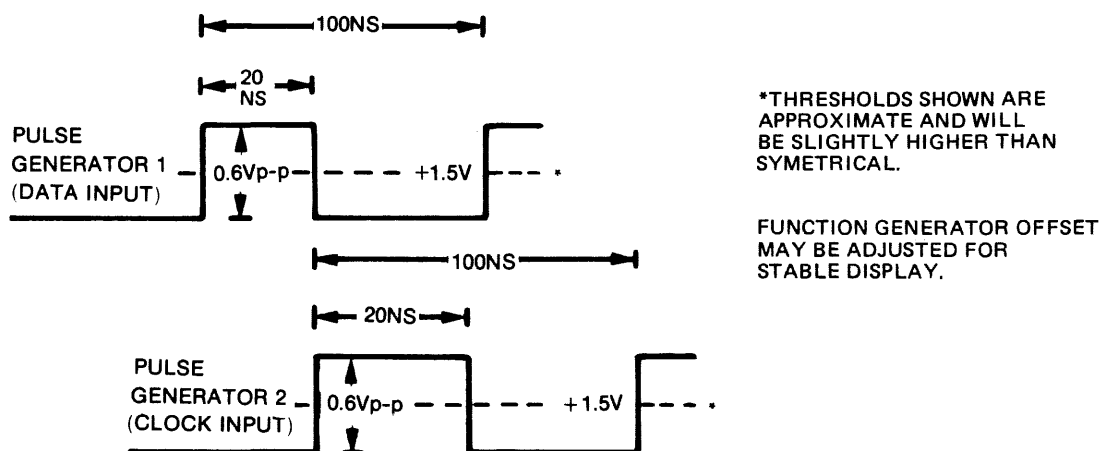

Figure 4-6. Minimum Input Voltage Swing Test Waveforms
- q. Set up pulse generators to supply waveforms shown in figure 4-6.